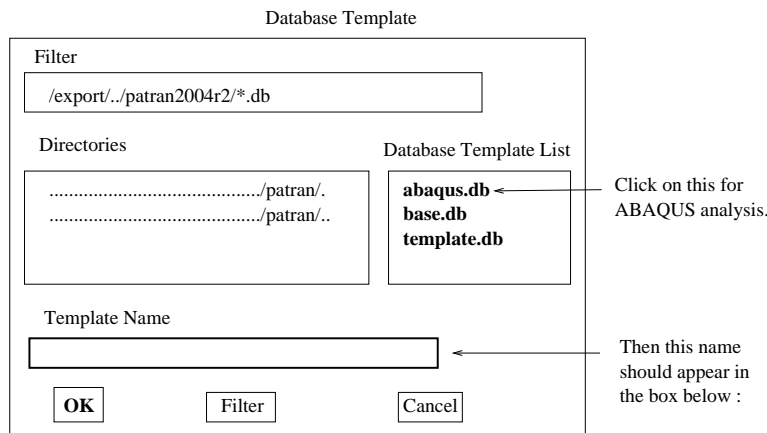

Figure 5: Change template
- Click on the label marked 'Change Template ...'. This will open a new form (**Figure 5**).